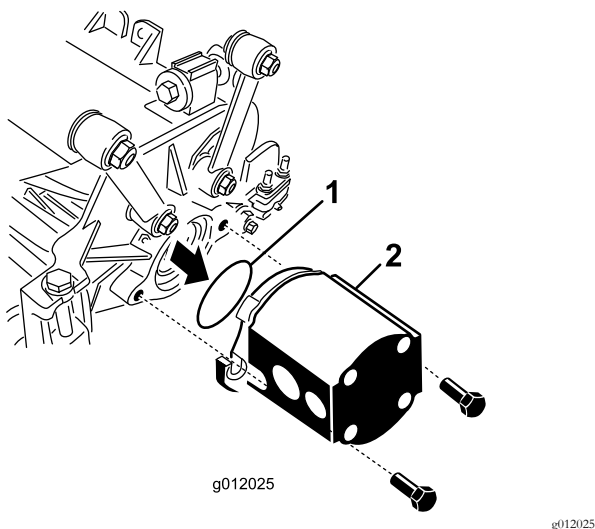

Figure 24
5. Insert the O-ring (supplied with the cutting unit) on the flange of the drive motor (Figure 24).
6. Mount the motor to the drive end of the cutting unit, and secure it with 2 cap screws provided with cutting unit (Figure 24).